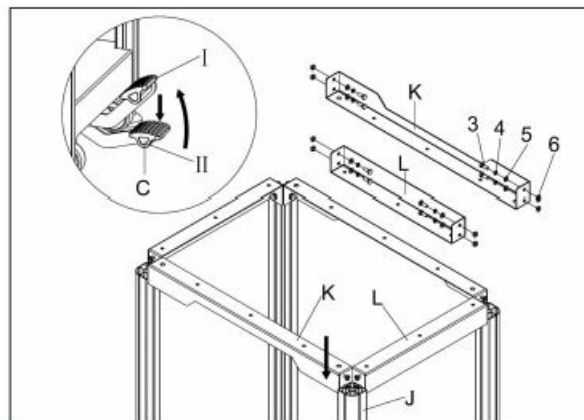

Fig.8
- **e.** Flip your RT-S over (right-side up) on the ground then press down on the foot pedal (C) gently. Slowly depress (lift) the foot pedal to change from state (II) to state (I).
- Next, preinstall the fasteners (#3, #4, #5, and #6) onto the sixteen holes located on the top brackets of (K) and (L).
- Finally, insert the top bracket (K) from the top of the leg (J), so that the square nuts are mated with the slots on the leg (J).
- Align the top bracket (K) to be flushed with the leg, and hand tighten the bolt to temporarily hold the bracket in place.
- Using the provided wrenches, tighten the bolt to secure the bracket. Repeat this step to install the remaining brackets (K) and (L) as shown in Fig.8.